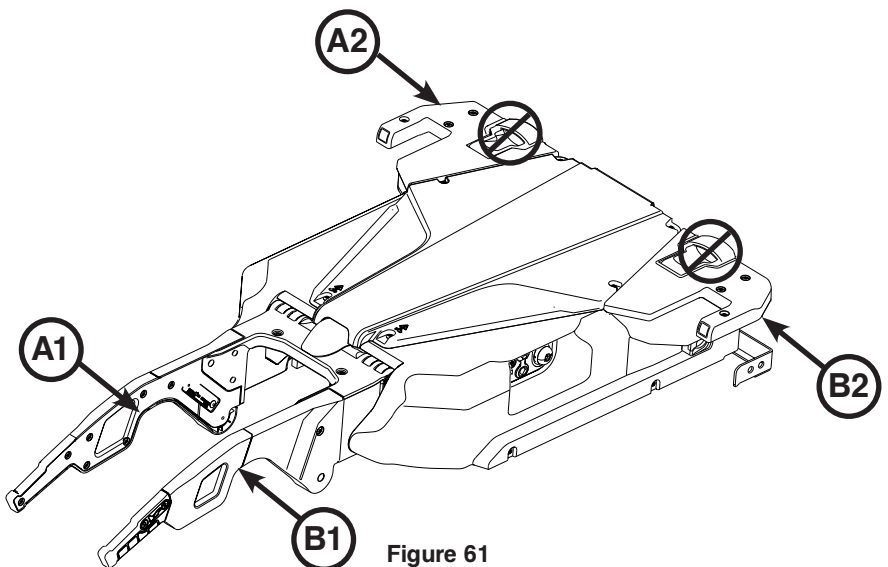

Figure 61
7. Carefully lift the trolley assembly by its arm and wing. Do not lift the trolley by the manual cot release handles. Lift only where indicated. Installer 1, position hands at A1 and A2. Installer 2, position hands at B1 and B2 as shown in Figure 61. Move the trolley toward the head end until it is off of the transfer. Remove the trolley from the anchor. Place the trolley in a suitable work area.